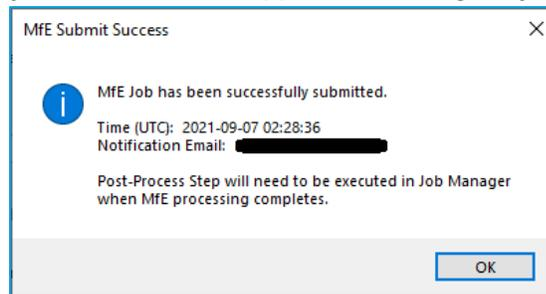

Figure 112 – Agisoft Ortho Mapping job submission confirmation
16. A successfully submitted job notification will appear confirming the job submission (Figure 112).